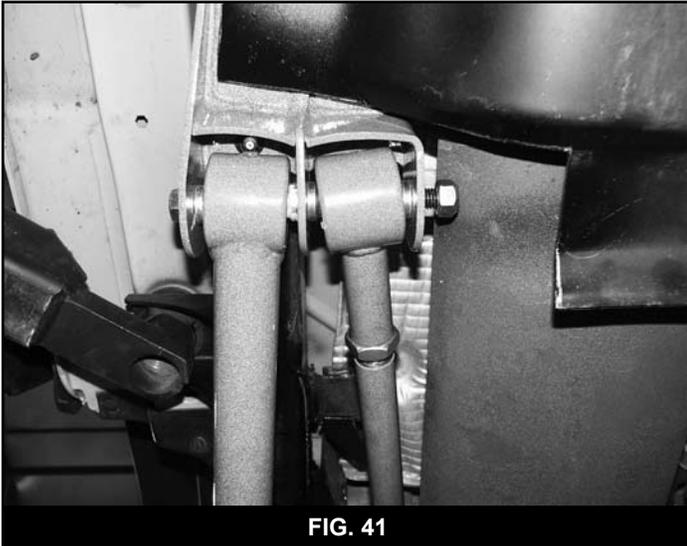
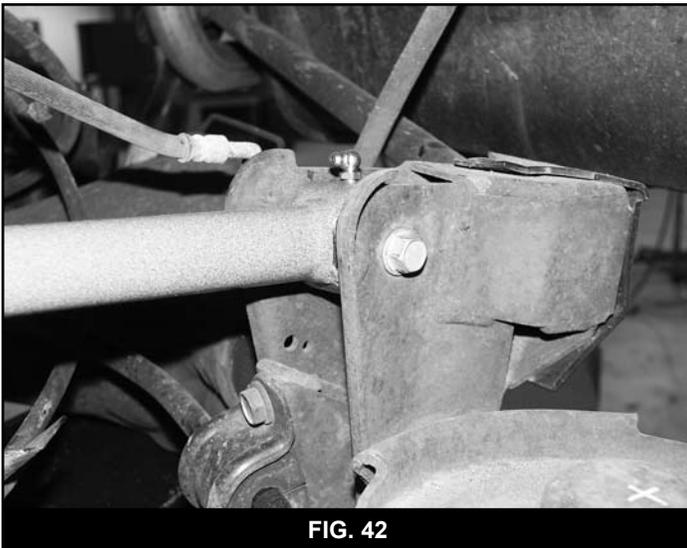

FIG. 41
FIG. 42
26. Install the new upper control arm (large end) in the inside subframe pocket (Fig 41) so that the grease zerk is up. Fasten the arm by sliding the 9/16" x 7" bolt the rest of the way through the bracket and two control arm ends. Fasten with a 9/16" nut and 9/16" SAE washer (BP 730). Attach the small end of the upper control arm to the OE axle mount with the original hardware (Fig 42). Leave hardware loose. Note: The emergency brake cable should run below the upper control arm and above the sway bar and lower control arm.